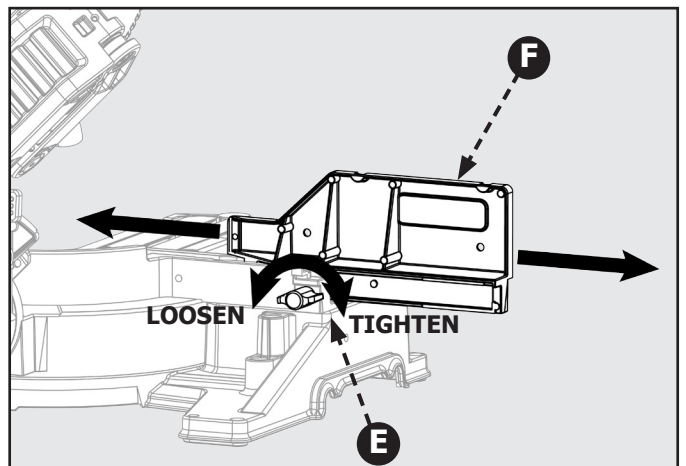

Figure 33
This saw is equipped with an adjustable extension fence. To extend or retract the fence refer to Figure 33 and follow these instructions: Loosen the lock knob (E) by rotating counterclockwise and the slide the fence (F) into the desired position. Make sure to re-tighten lock knob (E) by rotating clockwise.
**⚠ DANGER:** Always check to make sure lock knob (E) is tightened before making a cut. Failure to do so may result in injury.